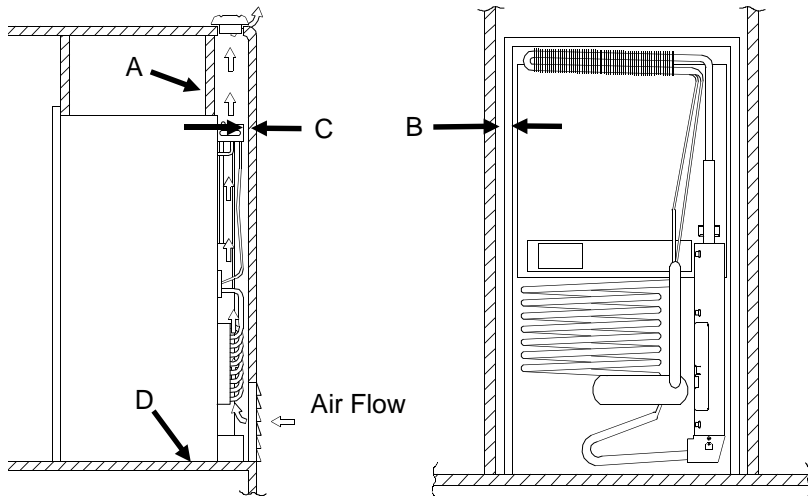

Figure 3
A.G.A. and CGA certification permits installing the refrigerator with zero (0) inches clearance between the refrigerator and any adjacent walls. This certification does not specify any maximum clearance. However, to insure adequate air flow across the cooling system, the clearances must be minimized. The recommended clearances between the refrigerator and any adjacent walls or surfaces are illustrated in Figure 3.
- Exhaust (upper) vent opening (A) is inboard in relation to the rear of the refrigerator
- Baffles (B) added to top of refrigerator to assist in directing air flow out the exhaust vent
- Angle between baffles (B) and rear top edge of the refrigerator not to exceed 45 degrees
- Deflectors (C) added at rear locations adjacent to the cooling unit condenser and absorber coils to reduce clearance to 1 inch max.
- Side clearances are the same as illustrated in Figure 3